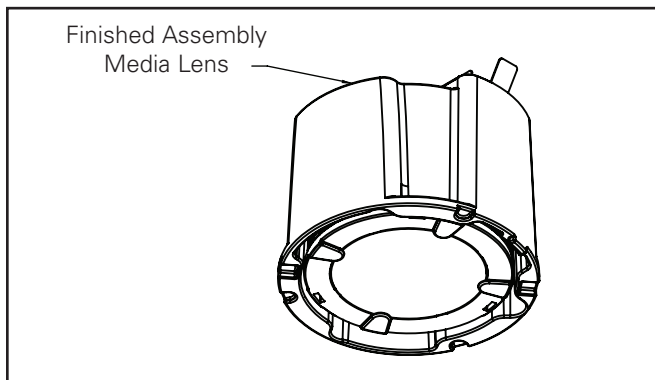

Figure 8
7. To install optic and media/film assembly to module follow steps in "Optic Assembly Replacement/Installation "(Figure 8 & 10)